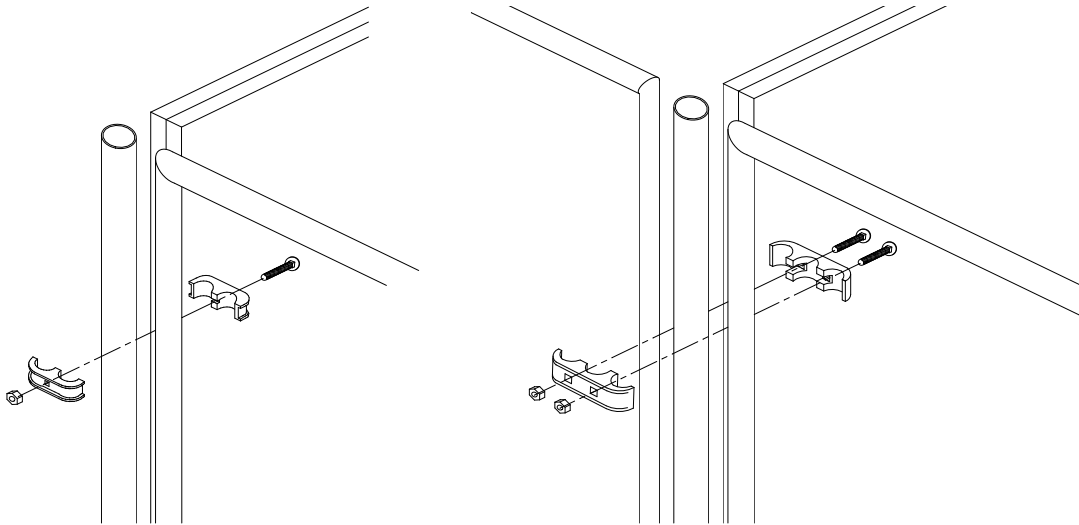
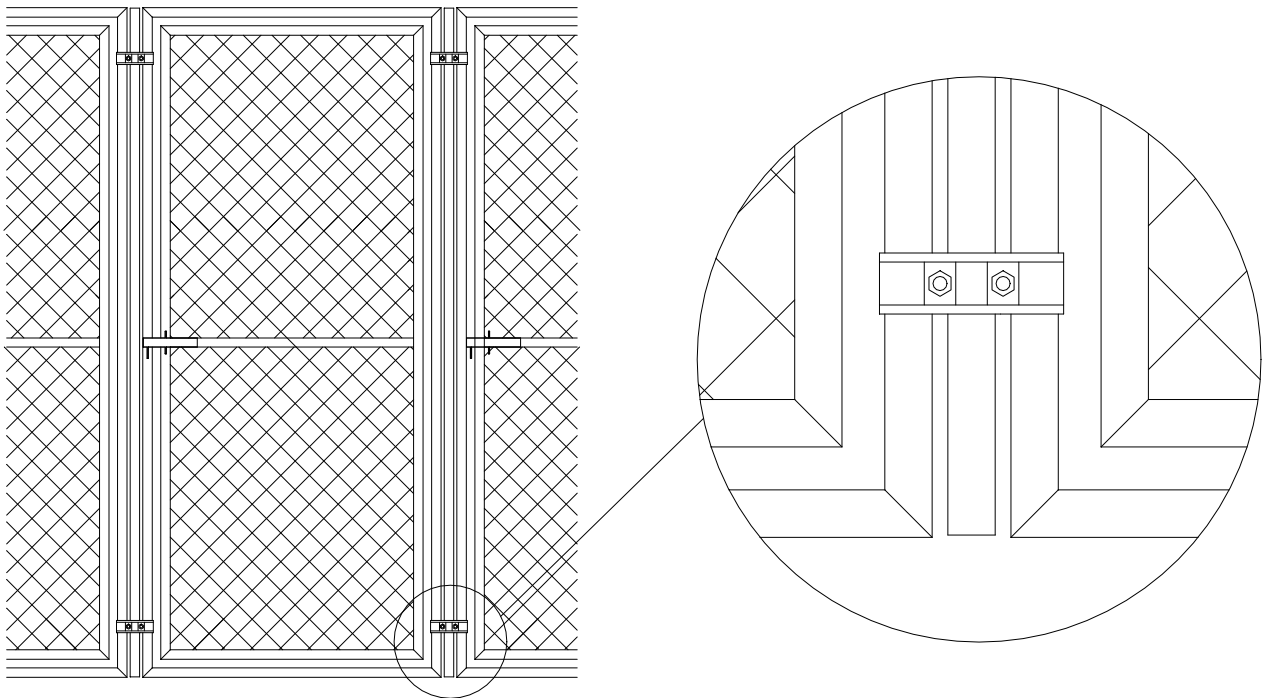

Figure 10
Figure 11
2. Attach the gate / stall front on the front of each run between the filler pipes with two clamps on each side using the 5/16" x 1-1/2" bolts and nuts provided as shown in Figure 10. Note: It takes two halves to make up one clamp. Attach gates / stall fronts to outside division panels using "panel clamps". All other gates / stall fronts will use "triple clamps". **To help ensure the safety of the animals the round head of the bolt should be assembled toward the inside of the run.** Note: The triple clamps attach two gates / stall fronts together. Therefore, you will have to hang two gates / stall fronts at the same time (see Figure 11).